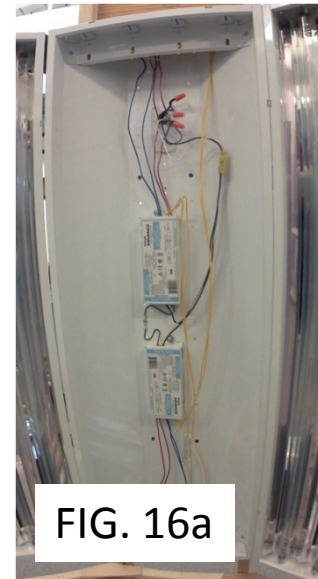

FIG. 16a
- Reflector and FEP-covered UV-C lamps (bulbs) need to be inserted into UV light fixtures (Fig. 16a). Wear clean cotton gloves to perform these steps.